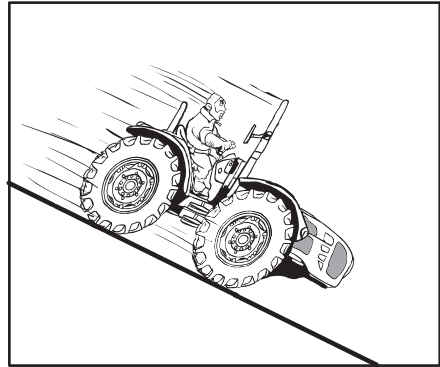

Fig. 2.23
- Engage a slow gear before starting downhill or uphill (Fig. 2.23).